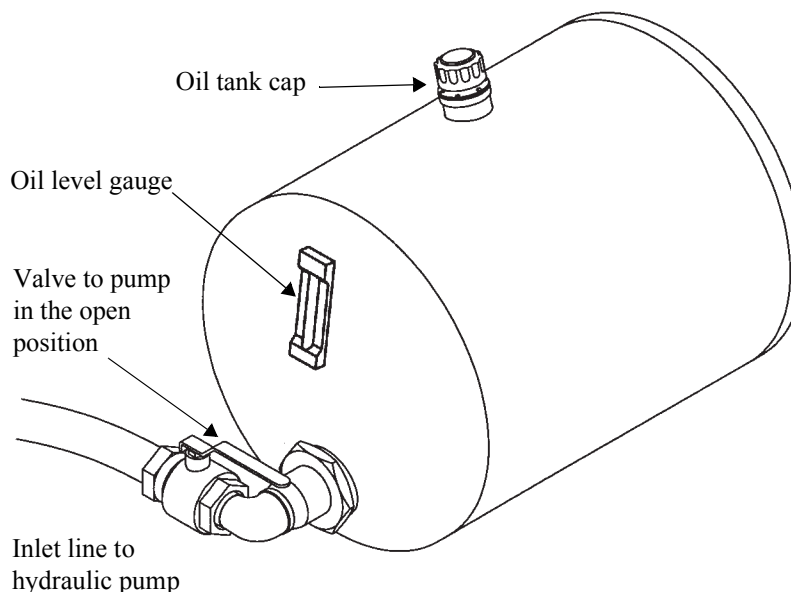

Figure 36 - View of oil tank with gauge, valve and cap
2. Using the appropriate oil for the season (see *Table 2 on page 86*), fill the tank until the oil reaches the top of the oil gauge on the side of the tank (see *Figure 36, below*).
4. Check that the valve on the inlet line to the pump is open completely (see *Figure 36, below*).
CAUTION! Keep the oil level above the hydraulic inlet line that leads to the pump (see *Figure 36, above*). The pump will be seriously damaged if oil does not flow into it. The same oil must be used in the tank and boom cylinders.